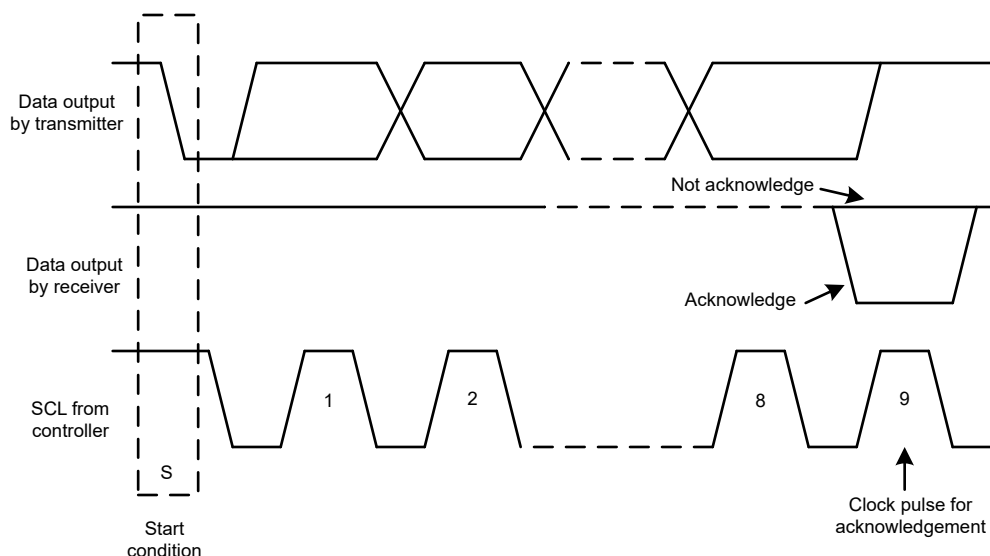
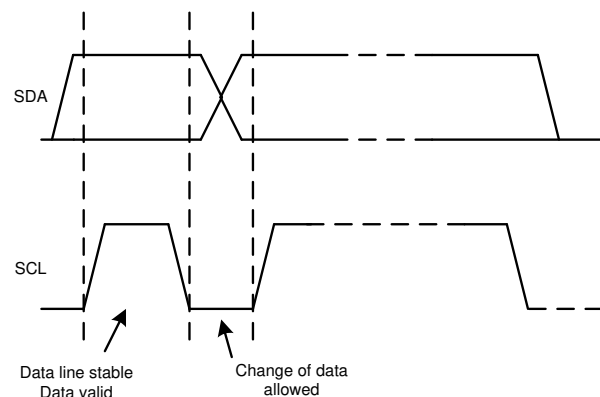

Figure 7-11. Acknowledge and Not Acknowledge on the I²C Bus
Figure 7-13. Bit Transfer on the I²C Bus
Other than specific timing signals, the I²C interface works with serial bytes. At the end of each byte, a ninth clock cycle generates and detects an acknowledge signal. An acknowledge is when the SDA line is pulled low during the high period of the ninth clock cycle. Figure 7-11 depicts a not-acknowledge, when the SDA line is left high during the high period of the ninth clock cycle.
2. The controller then generates the SCL pulses, and transmits the 7-bit address and the read/write direction bit (R/\overline{W}) on the SDA line. During all transmissions, the controller makes sure that data are valid. Figure 7-13 shows that a valid data condition requires the SDA line to be stable during the entire high period of the clock pulse. All devices recognize the address sent by the controller and compare the address to the respective internal fixed address. Only the target device with a matching address generates an acknowledge by pulling the SDA line low during the entire high period of the 9th SCL cycle (see also Figure 7-11). When the controller detects this acknowledge, the communication link with a target has been established.